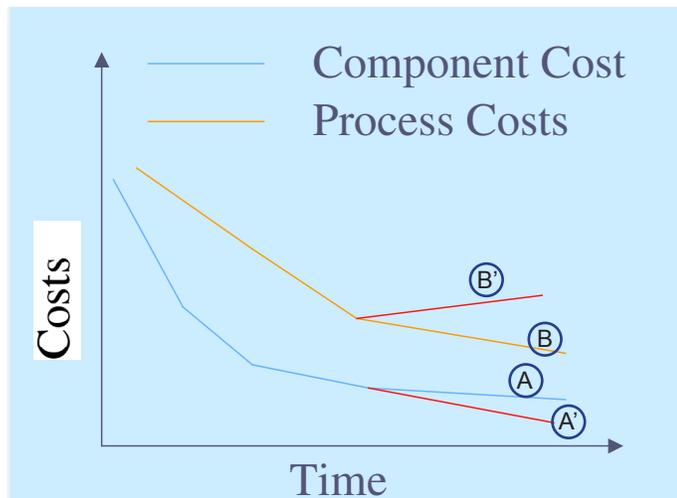

Figure 3: Component Tradeoffs
Figure 3 shows component costs have been going down over time, but the rate of decline slows as the cost of approach the cost of quality raw materials. (A) Companies are still demanding price decreases, so some vendors find ways to get costs below the cost of quality raw materials, which will involve compromises with quality, safety and environmental regulations. (A')